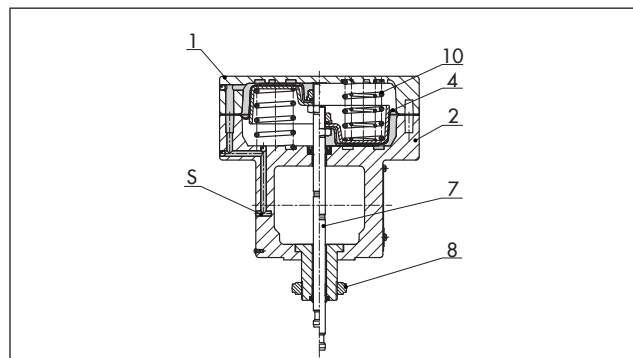

Fig. 8: Type 3277-5 for direct attachment of accessories (120 cm²)
- **Type 3277-5** · 120 cm² actuator area, die-cast aluminum housing for direct attachment of accessories (Fig. 8), optionally with additional handwheel (Fig. 5)